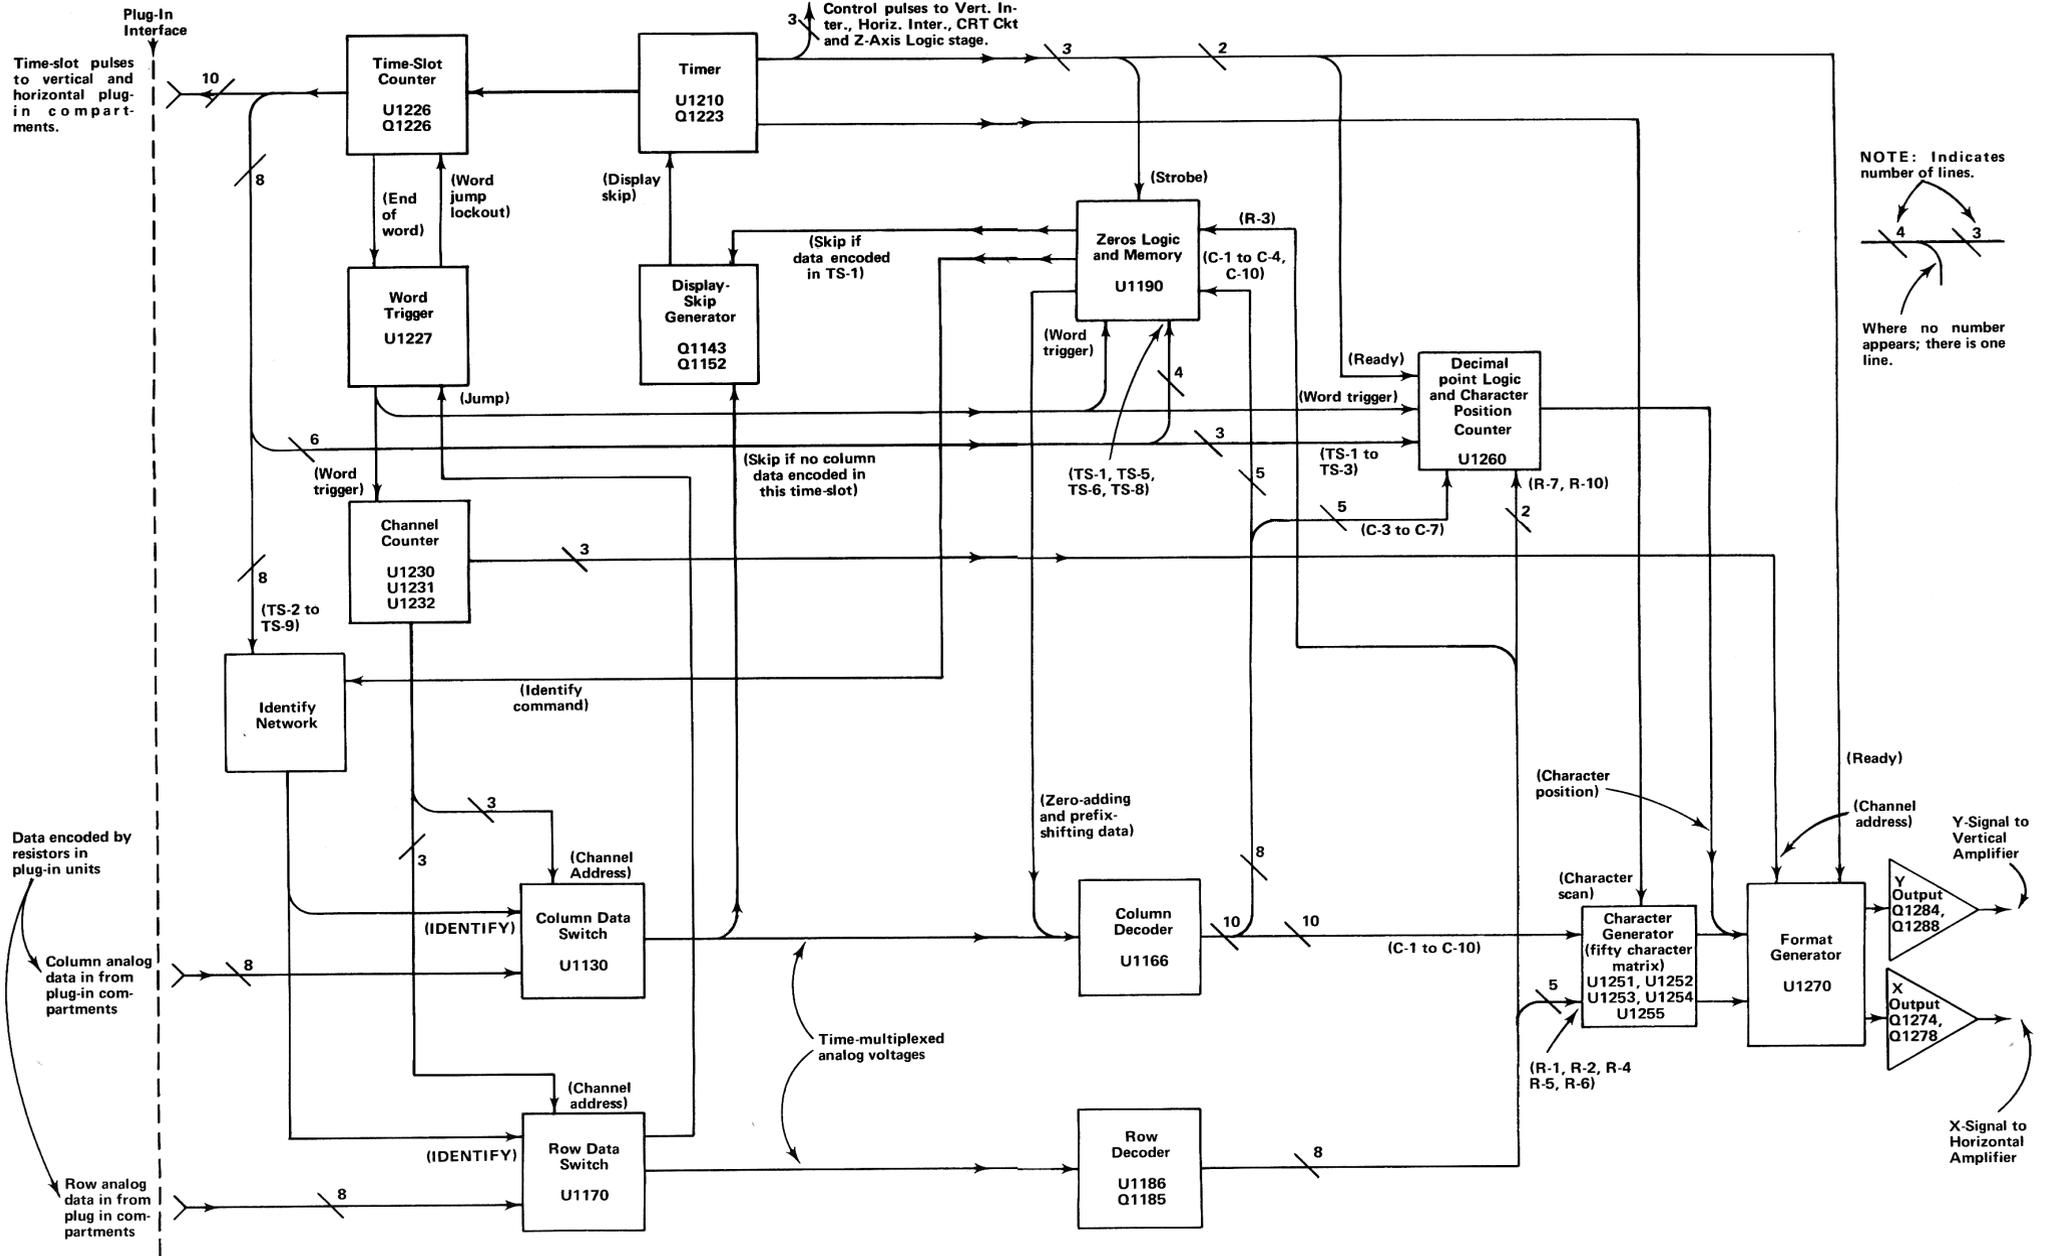

Fig. 3-39. Detailed block diagram of Readout System.
**Developing the Display.** The following basic description of the Readout System uses the block diagram shown in Fig. 3-39. This description is intended to basically relate the function of each stage to the operation of the overall Readout System. Detailed information on circuit operation will be given later.